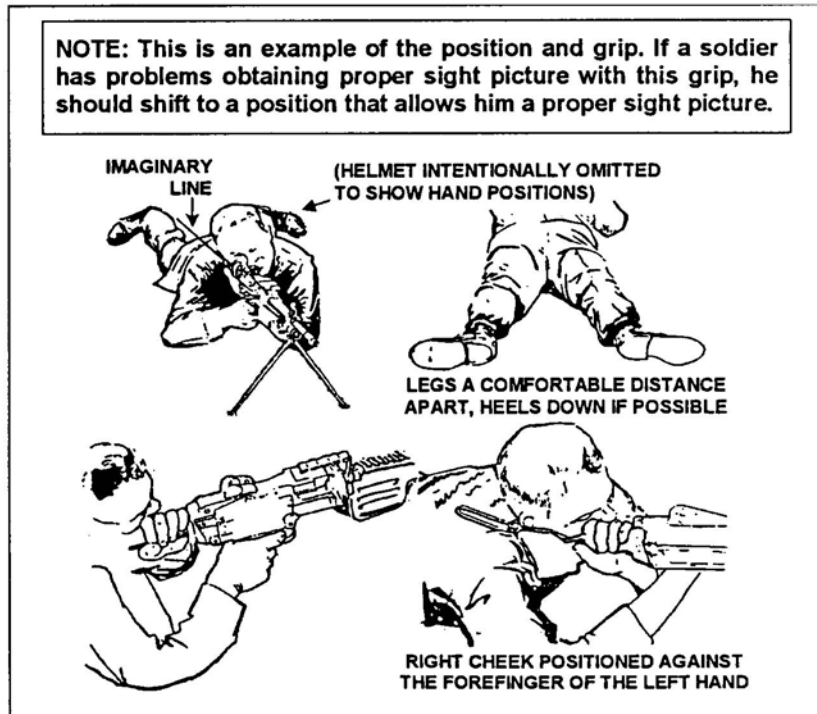
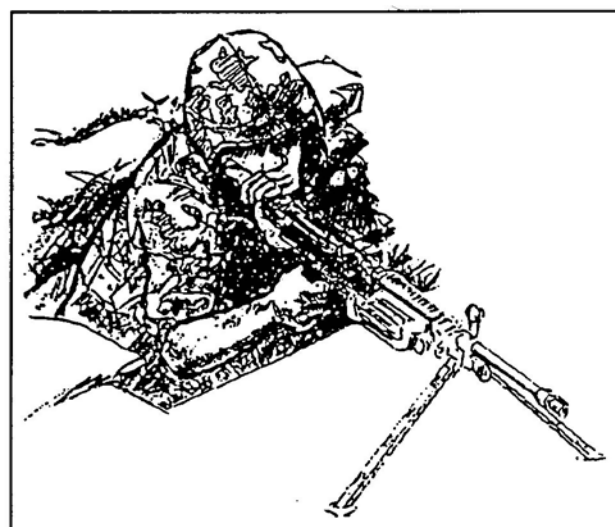

Figure 3. Prone position, bipod-supported.
Figure 4. Fighting position, bipod-supported.
- 2. Assume a good stable firing position (Figure 3 and Figure 4).